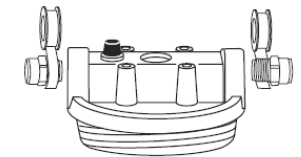

Figure 4
6. Wrap Teflon® tape (2 1/2 wraps) around the 3/8" (0,95 cm) fitting in a clockwise direction and fasten to filter head (see Figure 4). Do not use pipe sealant (dope), as solvents in some types of pipe dope may cause damage to plastic fittings.